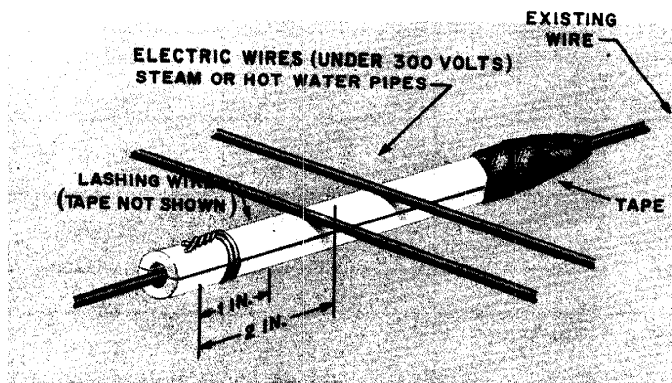

Fig. 2 — Securing Split Tubes
2. Secure split tube by placing two turns of lashing wire about 1 inch from each end of tube (see Fig. 2).